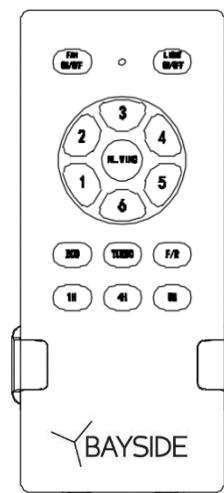

Fig. 12b
- Slide the remote into the holder to rest the remote. (Fig. 12b)